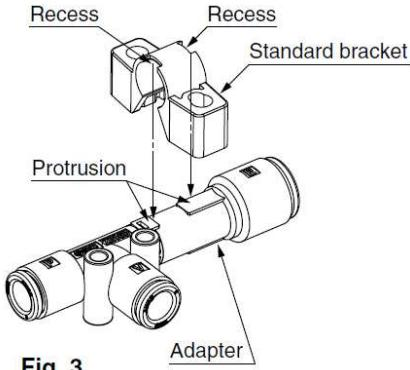

Fig. 3
- Mounting of the standard bracket (ZH05 to 15D- A) and adjustment of the vacuum (V) port
- (1) Align the recess of the standard bracket and the protrusion of the adapter. Push the bracket from the top onto the adapter (Fig. 3).